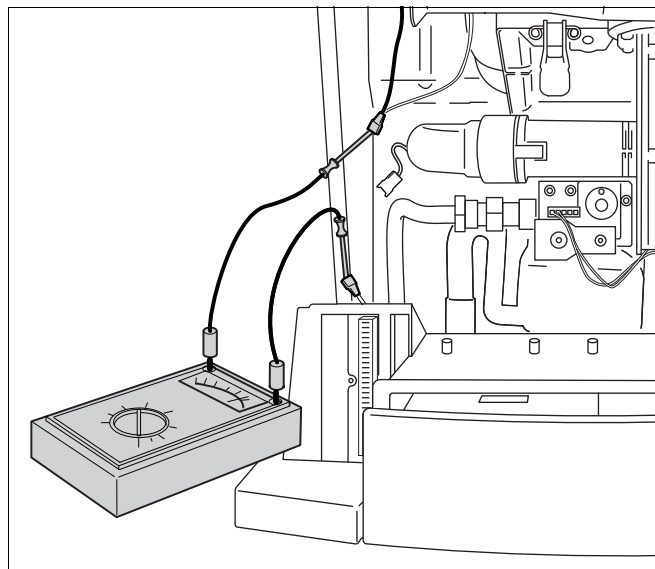

fig. 25 Testing the ionization current
- Connect the measuring device in series (see fig. 25).